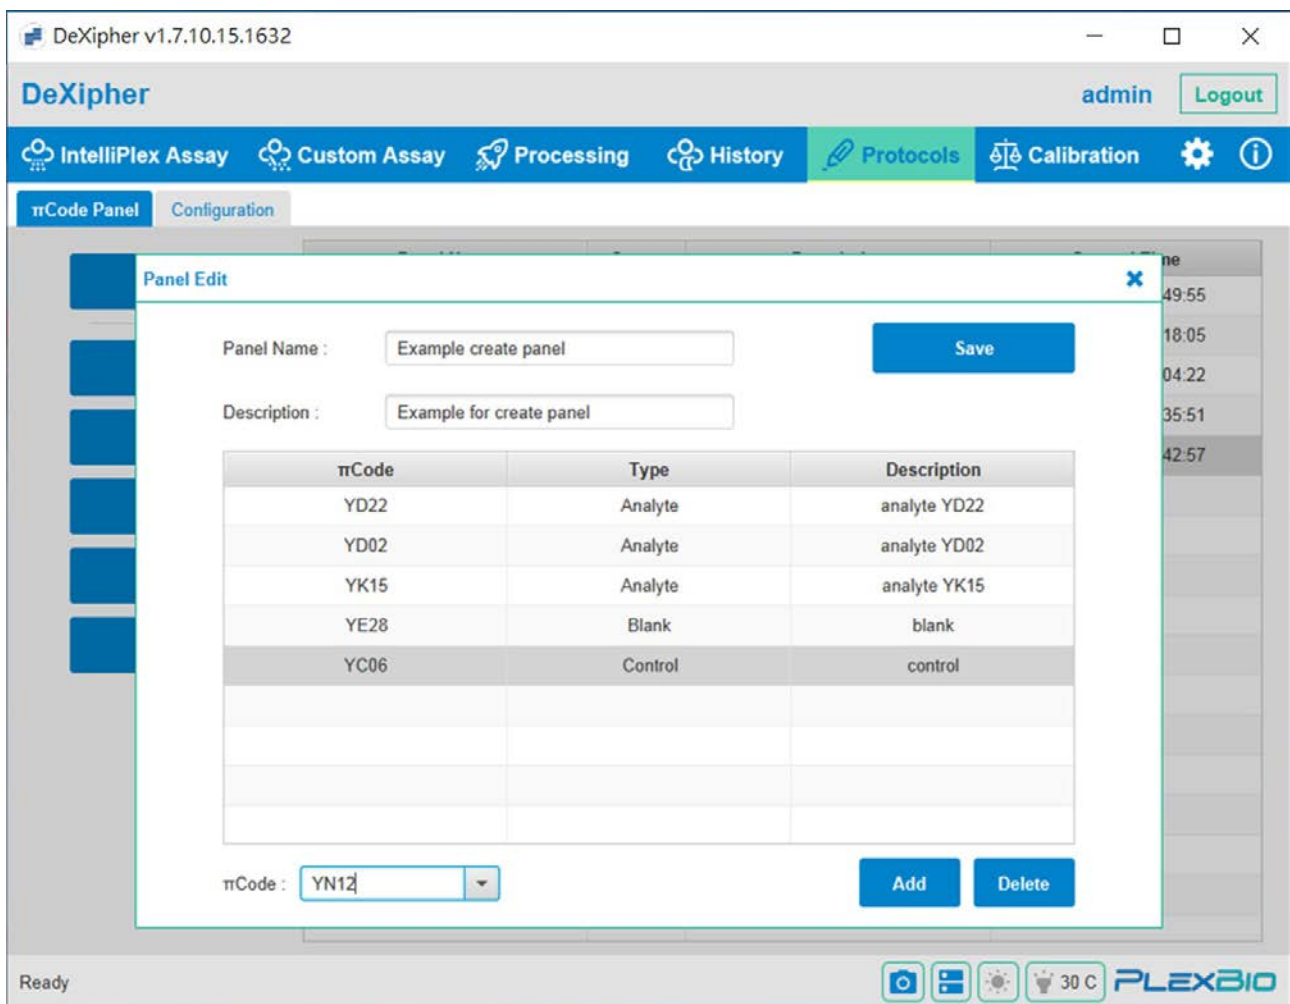

Fig. 38. Create π Code panel
Step 1. Enter a unique “Panel Name” (Fig. 38).